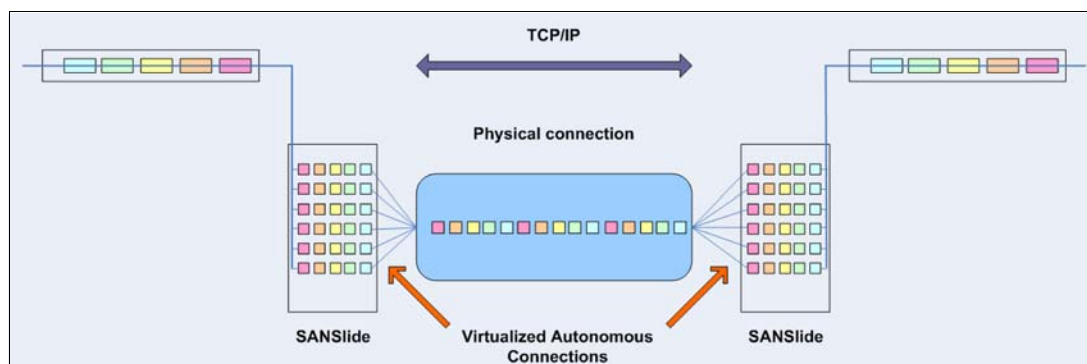

Figure 10-73 Optimized network data flow by using Bridgeworks SANSlide technology
However, by using the embedded IP replication, this behavior can be eliminated with the enhanced parallelism of the data flow by using multiple virtual connections (VC) that share IP links and addresses. The artificial intelligence engine can dynamically adjust the number of VCs, receive window size, and packet size as appropriate to maintain optimum performance. While the engine is waiting for one VC's ACK, it sends more packets across other VCs. If packets are lost from any VC, data is automatically retransmitted, as shown in Figure 10-73.